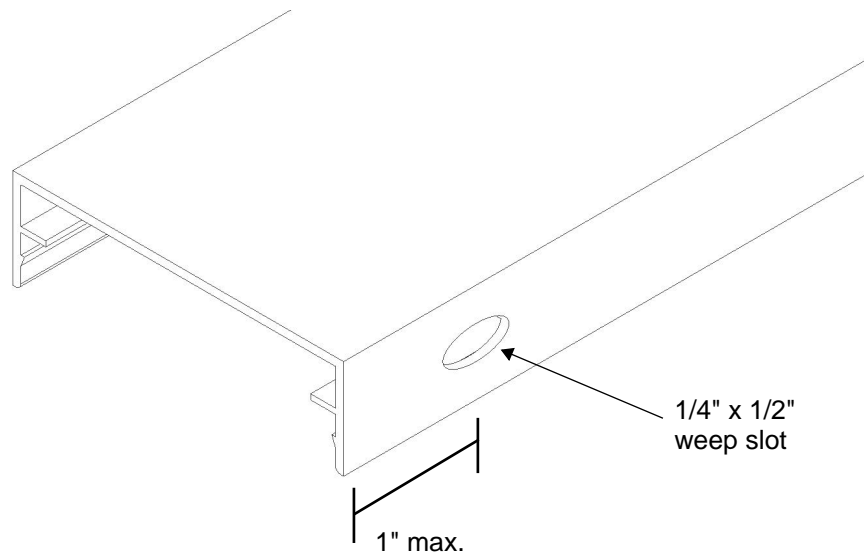

Figure 5: Mill a weep slot along the bottom of the horizontal snap-on cover.
- Mill a 1/4" by 1/2" weep slot along the bottom of the horizontal snap-on cover a maximum of 1" from the back of the cover, as shown in Figure 5.